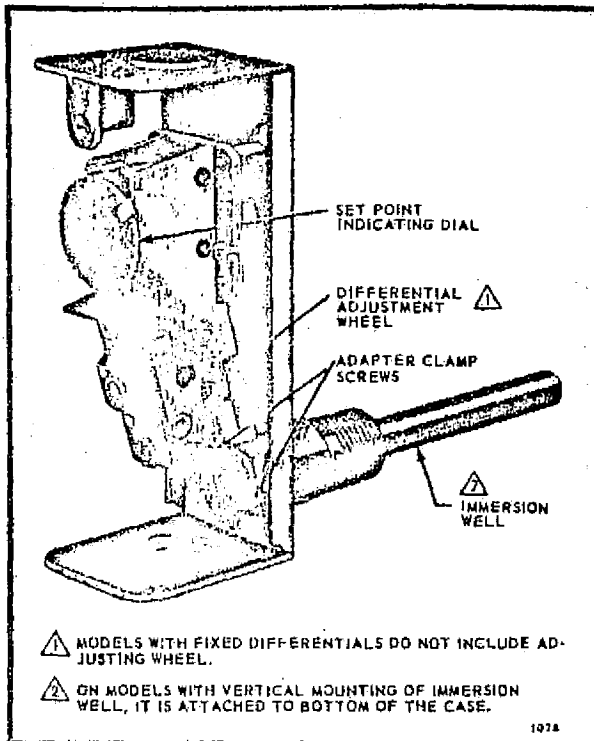

FIG. 11—INTERNAL VIEW OF L6006A.
- Loosen screw (at top of case, above scale-setting), and remove cover. Loosen two screws that secure adapter clamp. See Fig. 11.